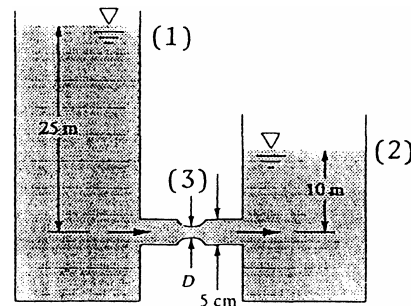

Fig. P3.171
3.171 For the 40°C water flow in Fig. P3.171, estimate the volume flow through the pipe, assuming no losses; then explain what is wrong with this seemingly innocent question. If the actual flow rate is $Q = 40 \text{ m}^3/\text{h}$, compute (a) the head loss in ft and (b) the constriction diameter D which causes cavitation, assuming that the throat divides the head loss equally and that changing the constriction causes no additional losses.